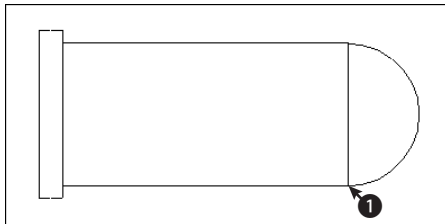

Figure 4-30: Using the From feature to complete the steam boiler
5. AutoCAD prompts you for a base point. Pick the endpoint near ❶ in Figure 4-30.